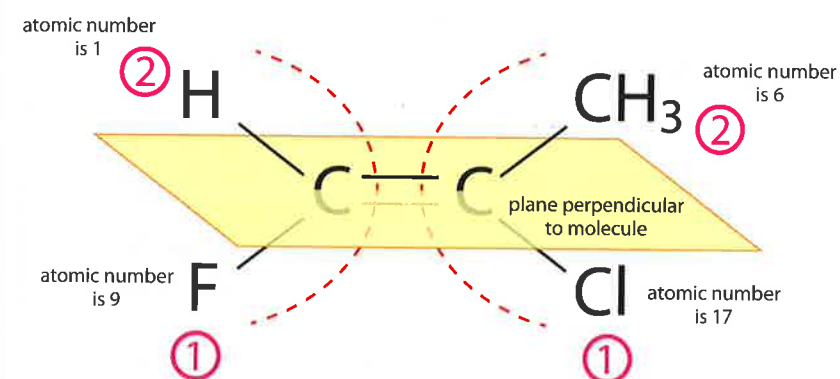

Figure 10.91 (*Z*)-1-fluoro-2-chloroprop-1-ene.
Consider the molecule shown in Figure 10.91. The priorities of the atoms and groups joined directly to the carbon atoms of the C=C bond are assigned – fluorine has a higher atomic number than H, therefore F has higher priority (1) than H (2). On the other side of the C=C bond, Cl has a higher priority than C. The two groups with the higher priority (labelled '1') are on the *same* side of the plane perpendicular to and through the C=C bond, so this is the *Z* isomer and it can be named (*Z*)-1-fluoro-2-chloroprop-1-ene.